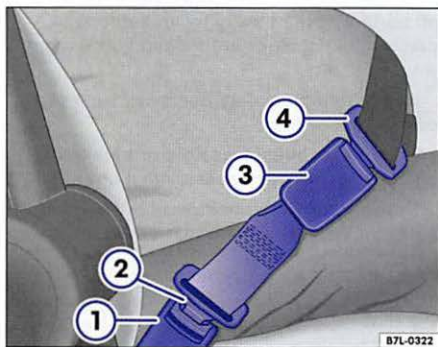

Fig. 56 A safety belt extender properly attached to the factory-installed safety belt.
Key to fig. 56:
- Insert the buckle tongue on the safety belt extender ⇒ fig. 56 ② into the vehicle belt buckle for the seat where the safety belt extender is being used ①.